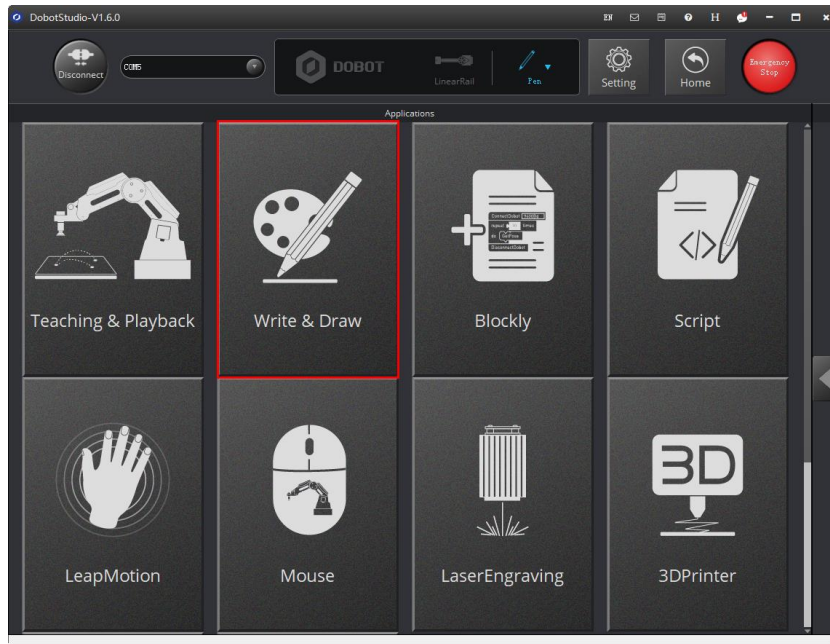

Figure 5.67 Click Write & Draw
Step 1 Click **Write & Draw** on the **DobotStudio** page, as shown in Figure 5.67.